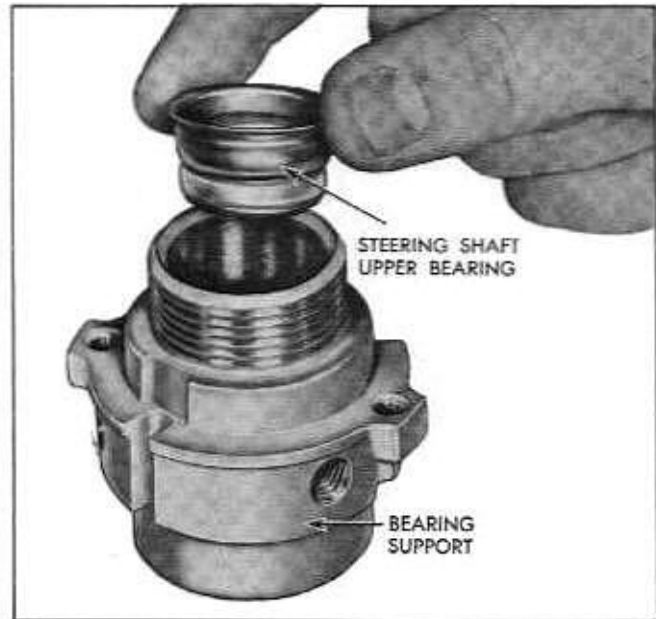

Fig. 7-11 Steering Shaft Upper Bearing
8. If standard steering shaft upper bearing was removed from bearing support, lubricate and press new bearing into support until flush (Fig. 7-11). If power steering, do not lubricate, just press plain bearing flush with counterbore.